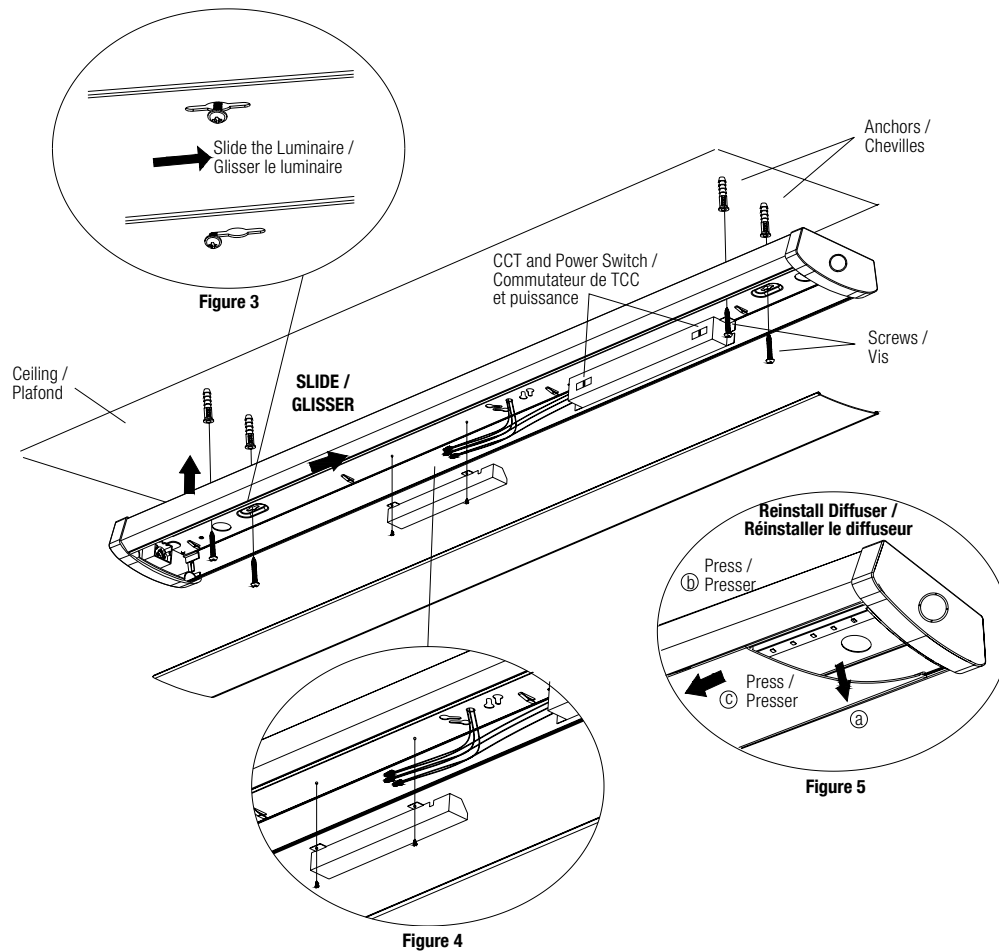

Figure 4B
- 4b. **Internal Wiring:** Remove the internal wiring box located on the inside of the luminaire by unscrewing the 2 screws (Fig. 2). Pull the luminaire's AC wires and the supply wires into the luminaire through the center hole on the back of the housing. Connect the supply wires to the AC wires inside the luminaire housing, then gather and cover the wire connections within the internal wiring box and secure it with the included screws (Fig. 4B).
- 4b. (Utilisation de la boîte de câblage interne) : Raccorder les fils CA à l'intérieur du corps du luminaire, puis recouvrir les fils avec la boîte de câblage interne et la fixer solidement (Fig. 4B).
INTERNAL WIRING / UTILISER LA BOÎTE DE CÂBLAGE INTERNE (FIGURE 4B)